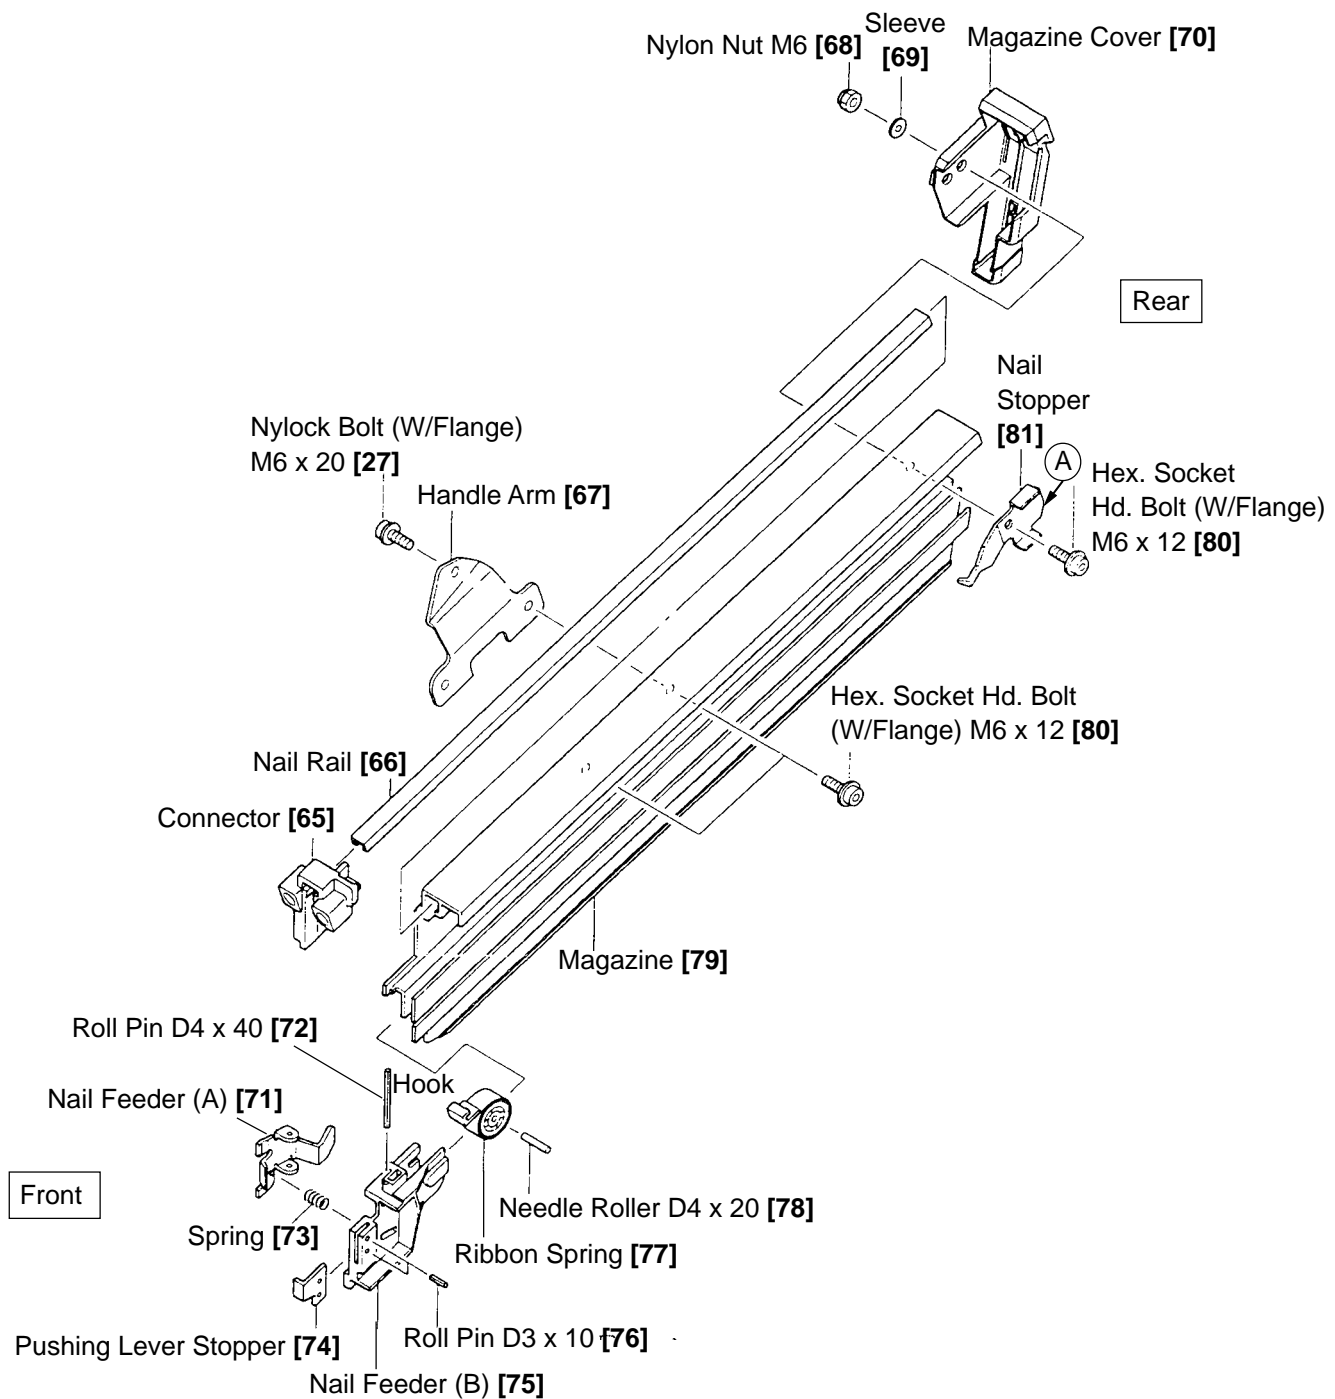

Fig. 22
(2) Magazine [79], Nail Feeder (B) [75] and the related parts (See Fig. 22.)